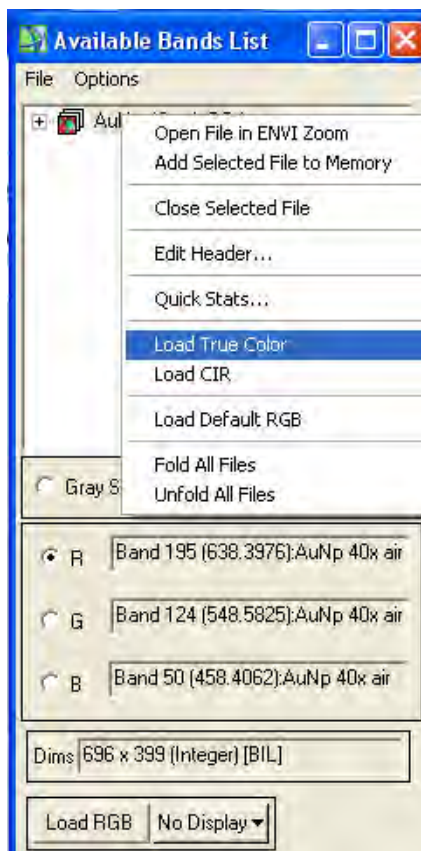

Figure 11. Load true color menu bar
1. When the image is first loaded, the ENVI automatically picks which image bands to use for red, green and blue in the color display. The default bands give a true color rendering of the image. To be sure that true color is used, right click next to the file name at the top of the available bands list and select "Load True Color to Current". The newly displayed HSI image will revert to the default bands if they are not already being used (see Figure 11)